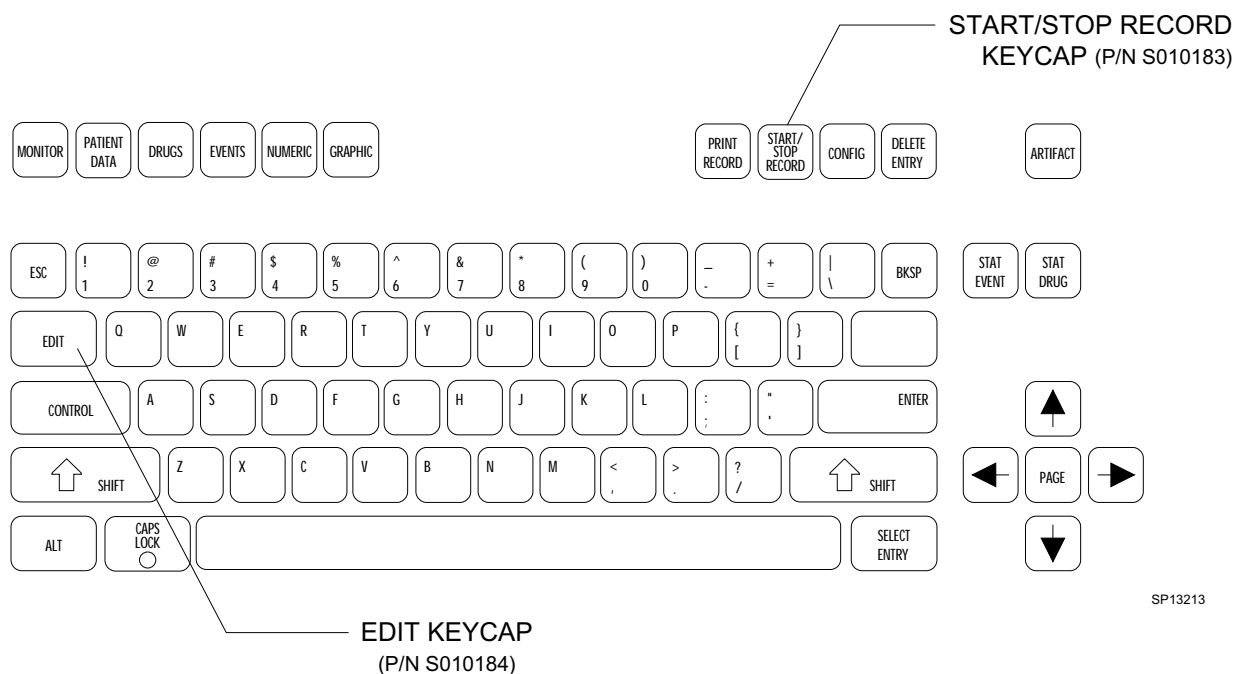

Figure 13: KEYBOARD LAYOUT WITH CORRECT KEYCAPS
58. Pull out the keyboard and verify that the EDIT and START/STOP RECORD keycaps are installed as shown in Figure 13.